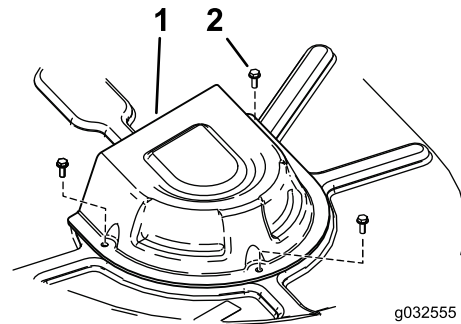

Figure 62
4. Remove the pulley covers (Figure 62).
8. Install the pulley covers (Figure 62).